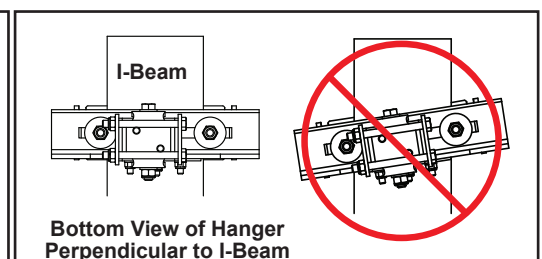

Figure 3-50B
- Step 9. Ensure I-beam bracket is perpendicular to I-beam lower flange. See Figure 3-50B below.